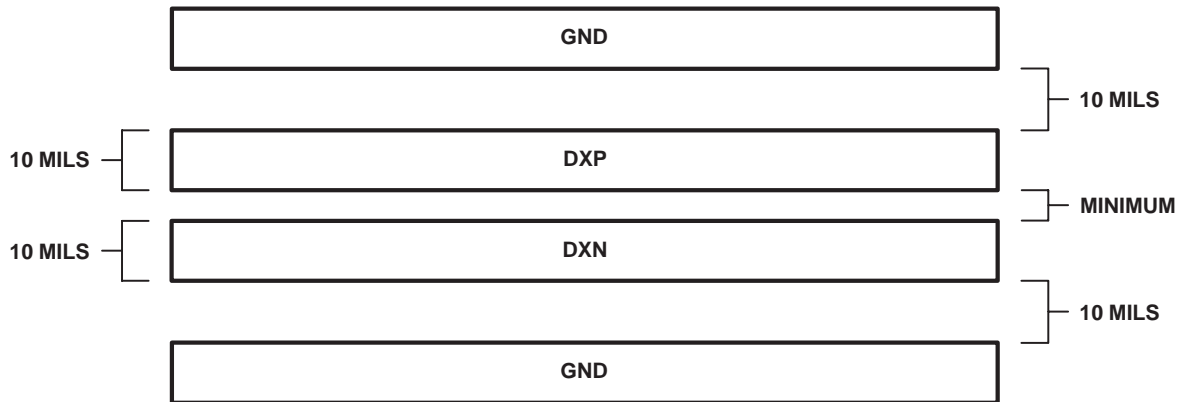

Figure 7. Recommended PC Board Layout for DXP/DXN Traces
- Connect guard traces to GND on either side of the DXP–DXN traces (Figure 7). With guard traces in place, routing near high-voltage traces is not an issue.
- Use wide traces. Narrow traces are more inductive and tend to pick up radiated noise. The 10-mil widths and spacings recommended in Figure 7 are not absolutely necessary as they offer only a minor improvement in leakage and noise, but usage is recommended where practical.